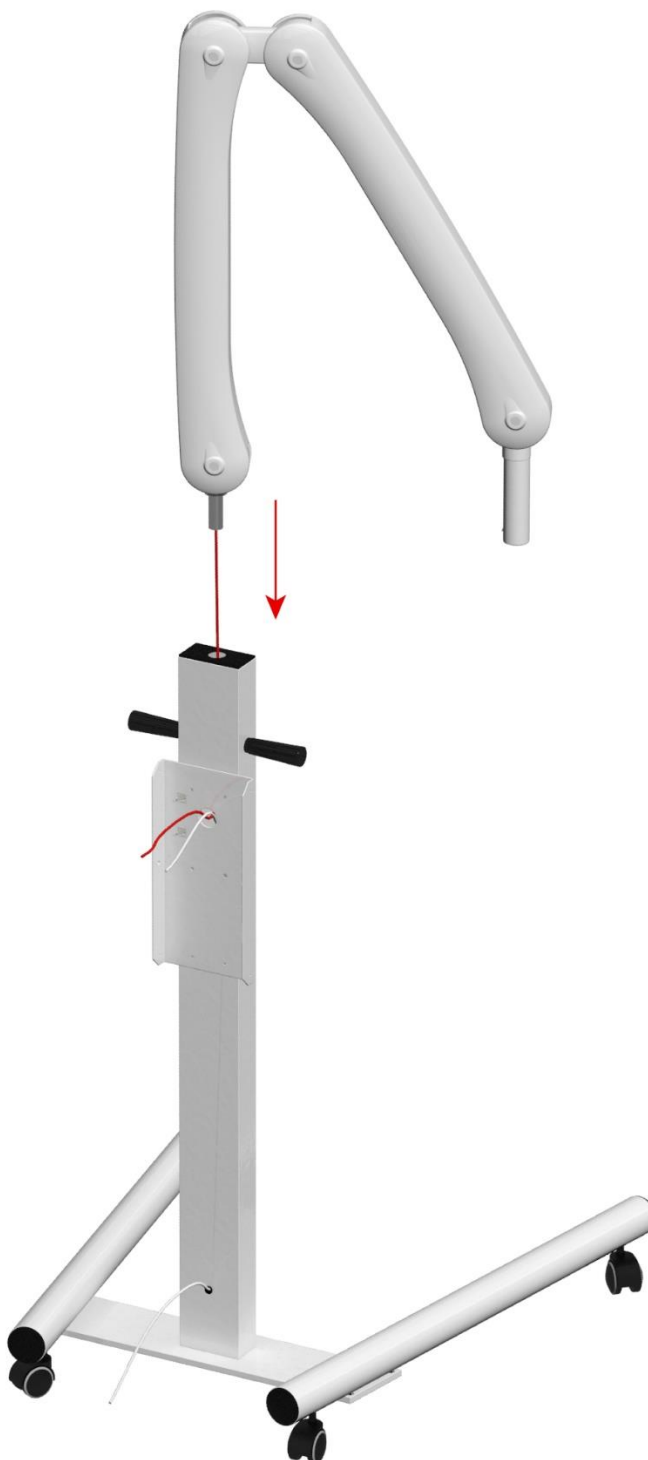

fig. 17
- ✓ Insert the double pantograph arm **(D)** in the vertical support **(B)** as shown in fig. 17